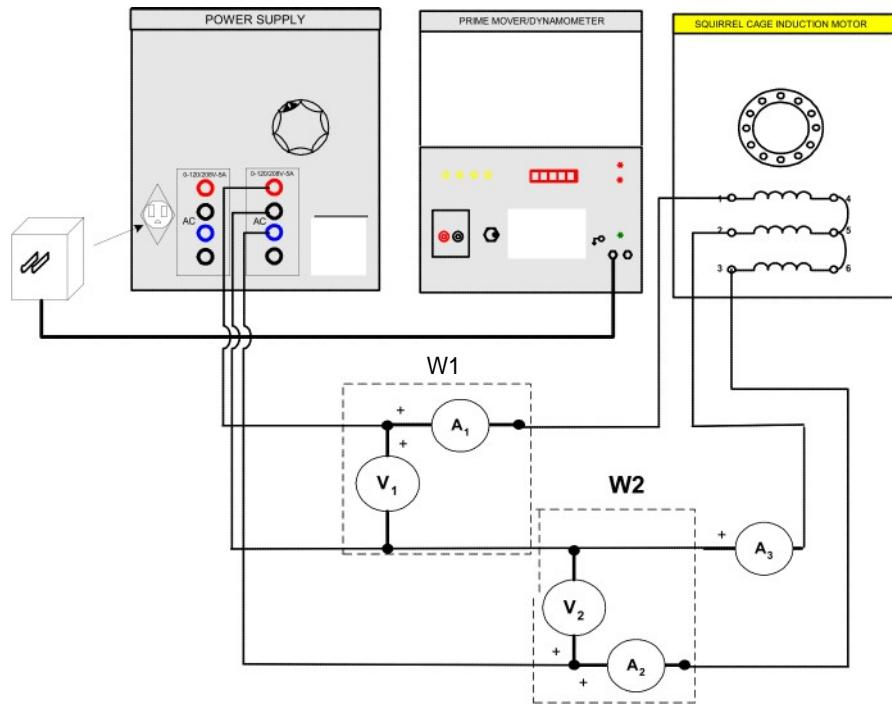

FIGURE 7.10
- Step 4: a) Connect the circuit shown in Figure 7.10. Do not couple the motor to the dynamometer at this time!